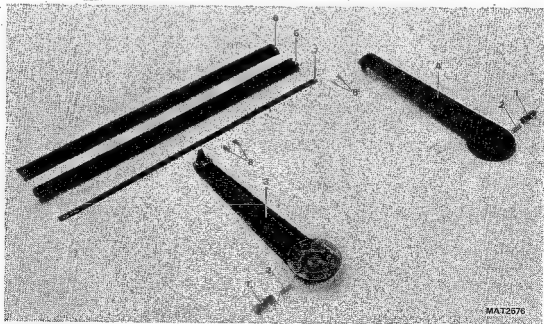

Figure 10.7 Carrying handle.
- Remove the plastic profile cover, (Item 6 in figure 10.7) which is snapped on the carrying profile (5).
- Remove the four screws (8) which fix the carrying profile to the handle arms.
- Depress the locking pins (1) and turn the carrying handle as far as possible to the upper side of the oscilloscope.